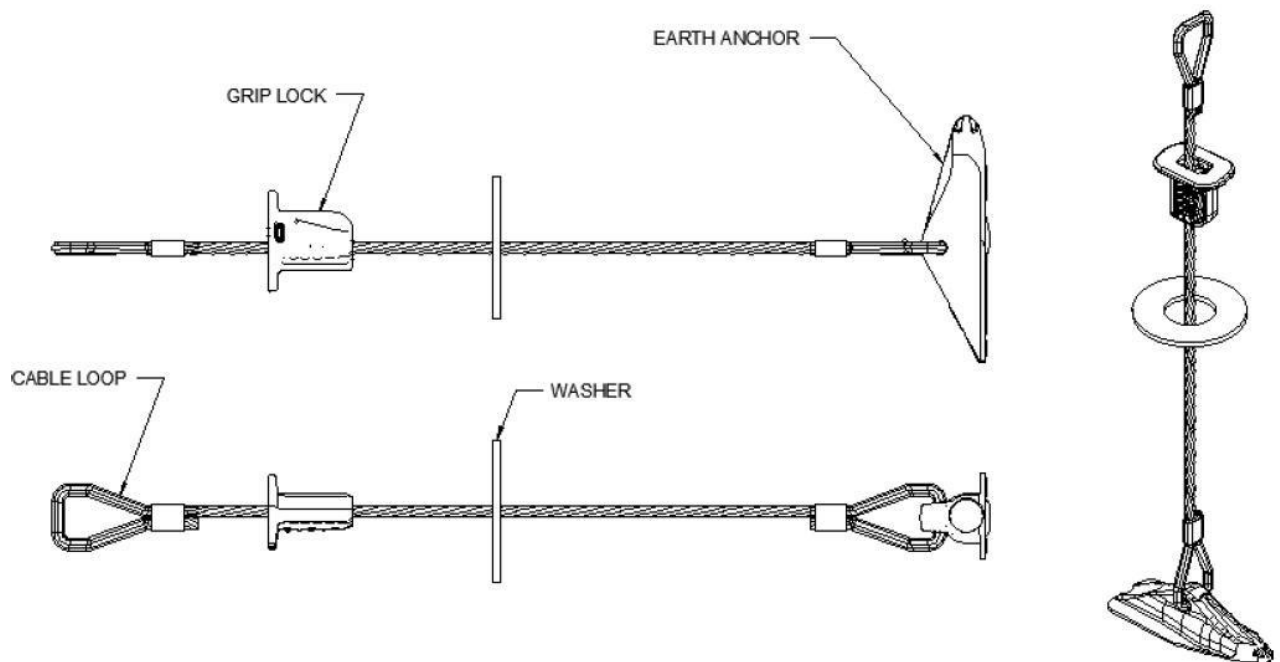

Figure 23: Earth Anchor Assembly
4. Drive the anchor to the full depth of the cable. Post pounding attachments are available for bob cats for larger projects but may require a thicker drive rods sold separately by Nuance. Refer to Figure 23 below.